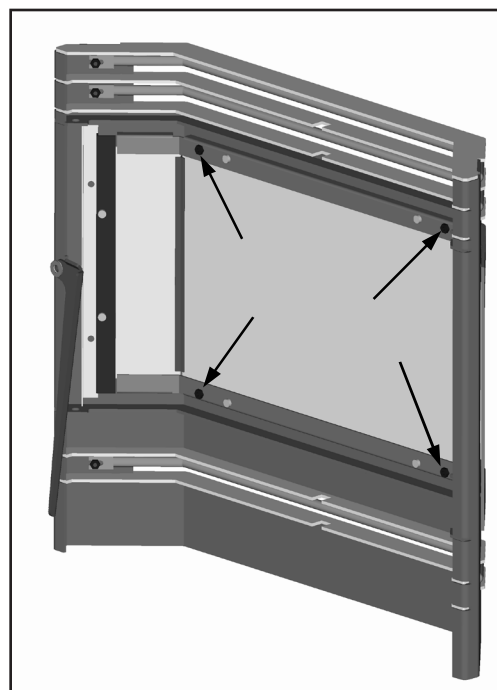

Figure 37: Inner side of Olympian door.
When stove is off and cool, open the door. Remove the four (4) #8 hex nuts around the inside of the glass retainer shown in Figure 37.